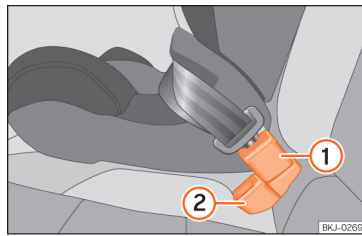

Fig. 40 Position of the belt buckle on the rear seat
- ① Belt buckle for the middle seat
- ② Belt buckle for the side seat
- Place the middle seat's belt buckle >>> Fig. 40 ① behind the side seat's belt buckle >>> Fig. 40 ②.
- Plug the middle seat's seat belt into the middle seat's belt buckle >>> Fig. 40 ① and make sure it clicks in place.
- For seat belts to be correctly fitted, the buckles must not be twisted >>> Fig. 40.